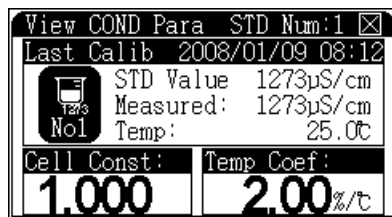

Figure 21 The View COND Para screen
- 2 Select **View COND Para** and press **[Enter]**. The meter displays the **View COND Para** screen. See Figure 21.